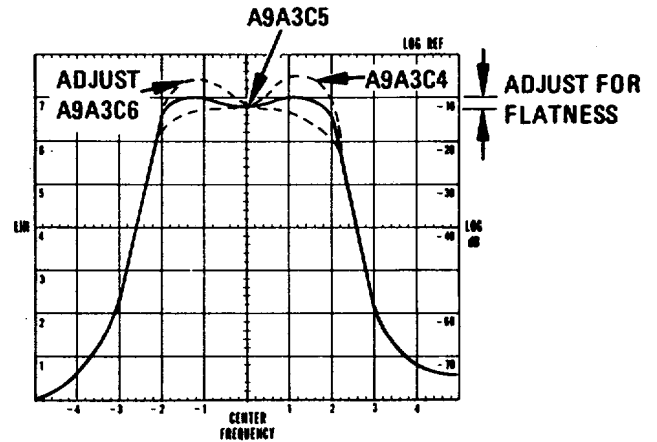

Figure 5-5. 200 MHz Bandpass Shape Adjustment: CRT Display
- 7. Measure total deviation of the bandpass flatness; flatness should be within +0.4 divisions (vertical) over ±1 divisions (horizontal) referenced from CENTER FREQUENCY. Compare the display with Figure 5-5.
- 12. Adjust the FILTER adjustments, A9A3C4,5,6 for a bandpass shape as shown in Figure 5-5 while maintaining amplitude at 7 divisions using GAIN adjust A9A1C8. If sufficient amplitude cannot be obtained with A9A1C8, change the value of factory selected resistor, A9A1R7 until proper level is achieved.